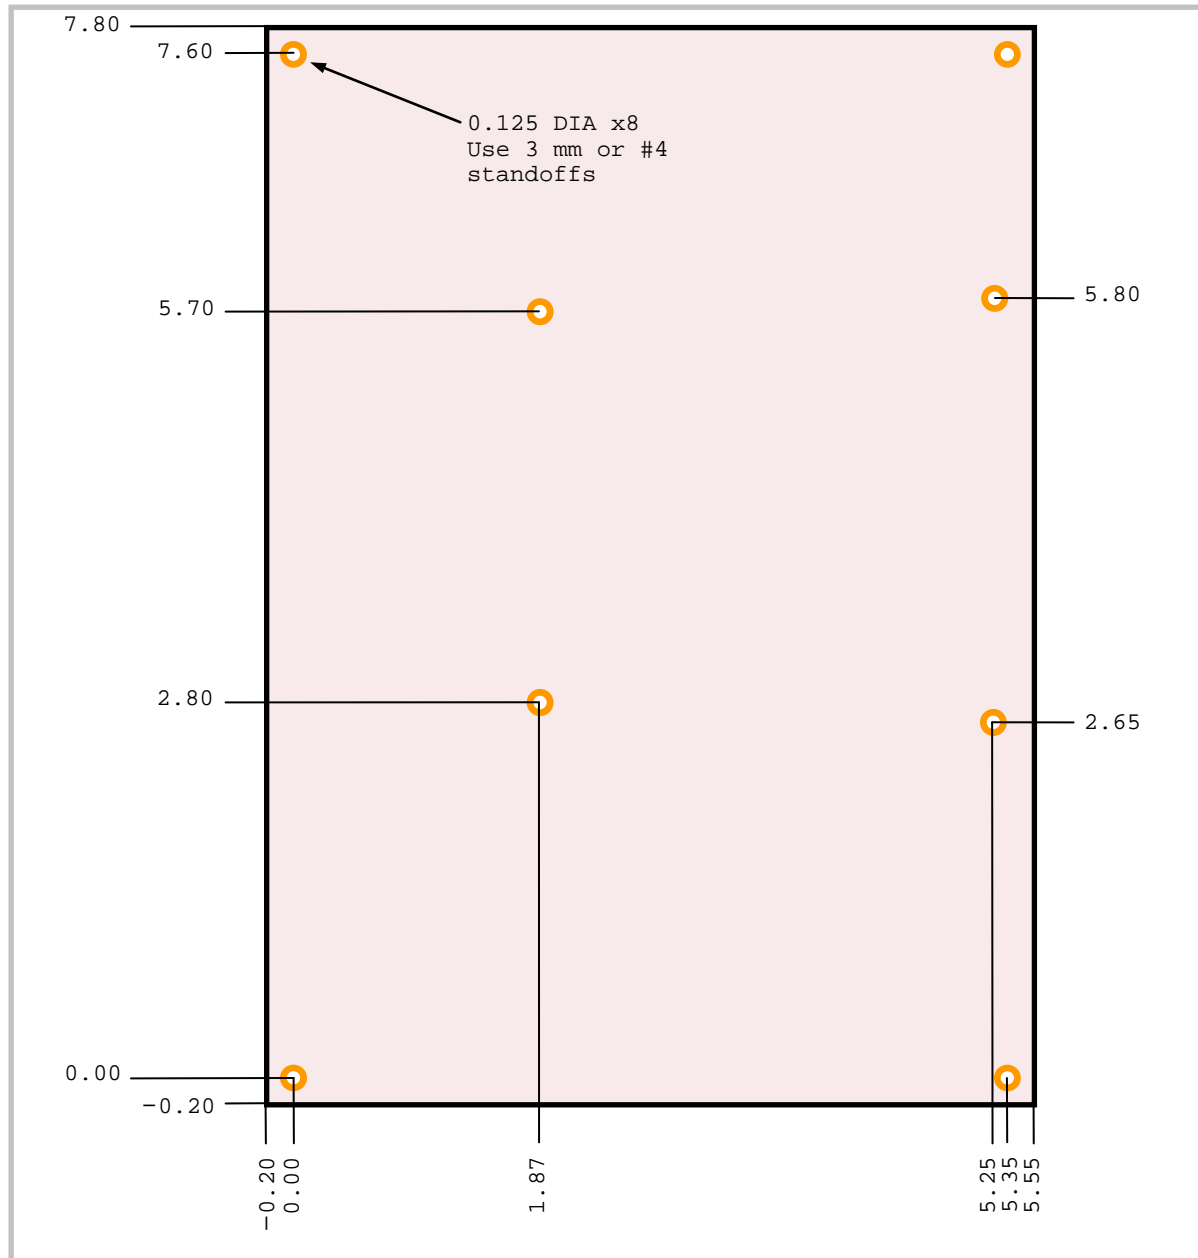

Figure 3. VL-EBX-41 Dimensions and Mounting Holes
2. The PCB origin is the mounting hole to the lower left as shown in Figure 3 (lower right when viewing bottom side of board).